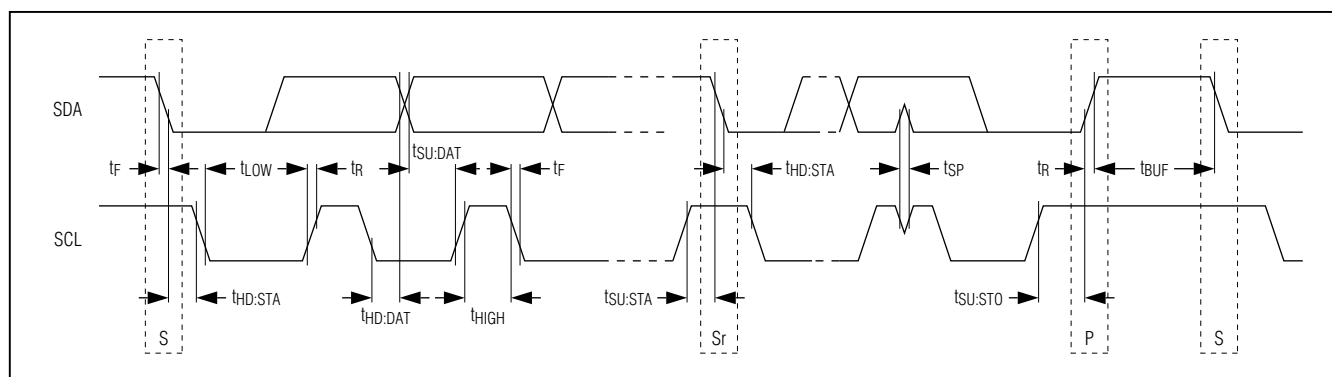

Figure 1. I²C Timing Diagram
The device features an I²C-compatible, 2-wire interface consisting of a serial-data line (SDA) and a serial-clock line (SCL). The SDA and SCL lines enable read and write communication between the IC and a master device at a rate of up to 400kHz. The IC is a slave device, relying on the master to generate the SCL signal. The master initiates data transfer on the bus and generates SCL to permit the transfer. Figure 1 shows the timing for the bus. The two bus lines (SDA and SCL) must be high when the bus is not in use. When in use, the port bits are toggled to generate the appropriate signals for SDA and SCL. The SDA state is allowed to change only while SCL is low. The state of SDA must remain stable while SCL is high, with the exception of START (S) and STOP (P) conditions. Data is transmitted in 8-bit bytes. Nine clock cycles are required to transfer the data bits to the device, with the 9th clock cycle used for an acknowledge pulse. A separate V_{DDI} power-supply input and internal bidirectional level translators are provided to allow the device to interface to a microcontroller running on a voltage other than V_{DD}. The SDA driver is an open-drain output, requiring a pullup resistor to generate a logic-high voltage.
Both SCL and SDA must be high when the bus is not in use. A bus master signals the beginning of a transmission with a START condition by transitioning SDA from high to low while SCL is high (see Figure 1). When the